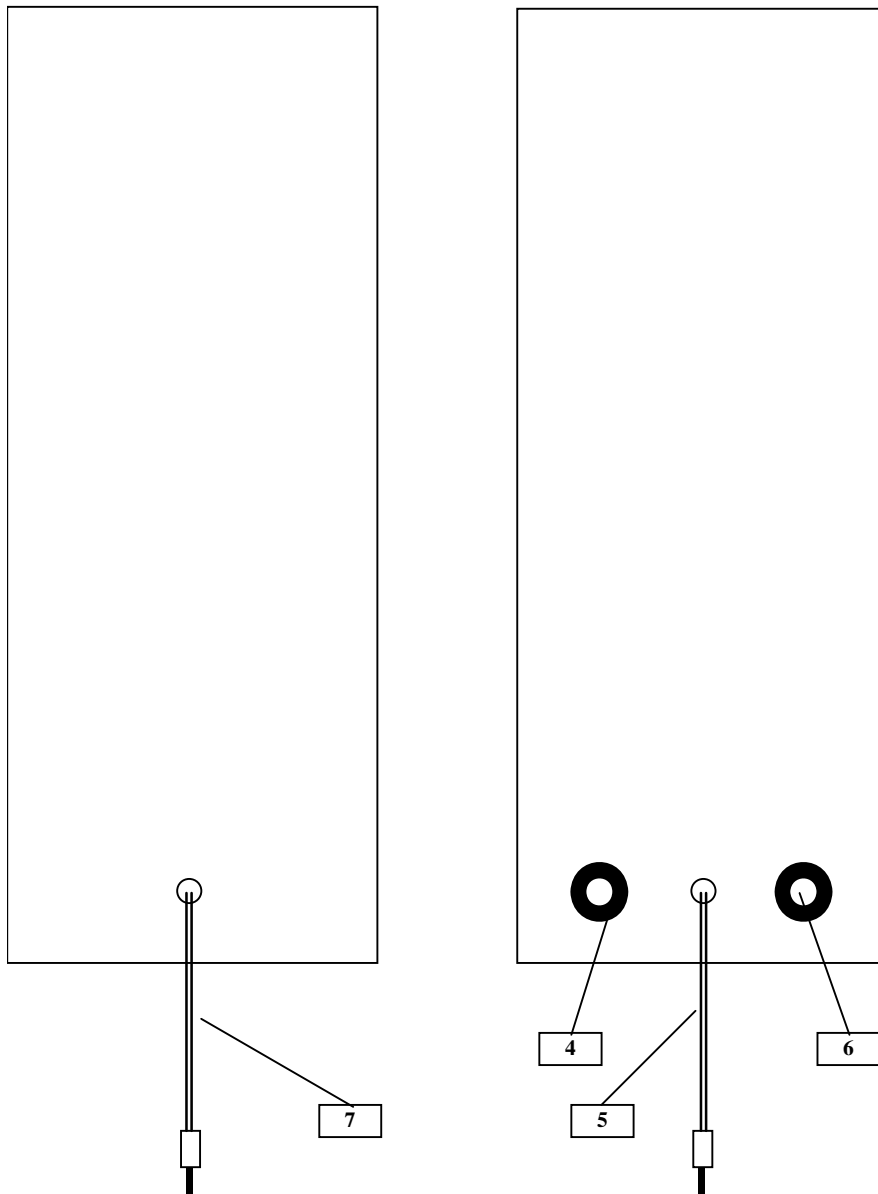

Figure 63 : JBL speakers rear panels
- ☞ Refer to Figure 63.
The JBL speakers rear panel (right channel speaker) includes (See Figure 63):
(See Figure 63).
- A3 (visual check): check that all cables are well plugged on the Speakers side, as well as on the others LRU side. Refer to the Figure 63 .